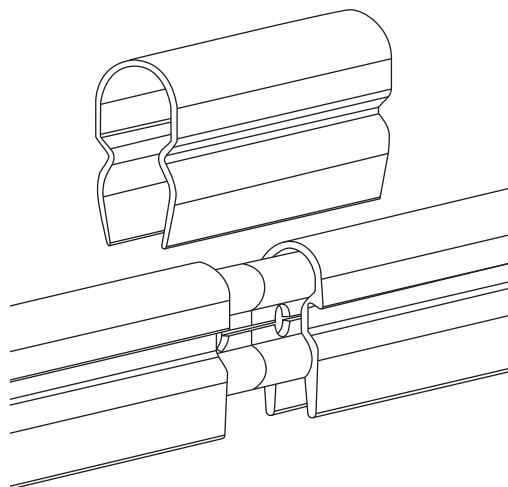

Figure: 9-10
- B. For high heat joint cover (PN: XA-11123), see **Figure 9-10**.